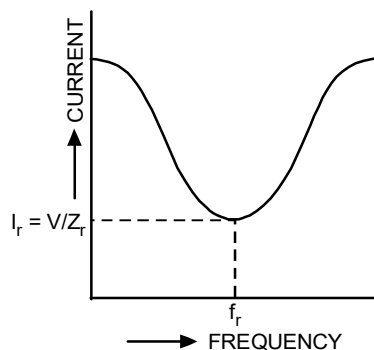

Fig. 2.72: Curve between f and I
- (iii) The value of circuit current $I_r (= V/Z_r)$ is very small, as shown in fig.2.72, because the value of Z_r is very high.
Resonance curve : A current-frequency curve for a typical parallel resonant circuit is shown in fig.2.72. The value of line current $I_r (= V/Z_r)$ is minimum at resonance.